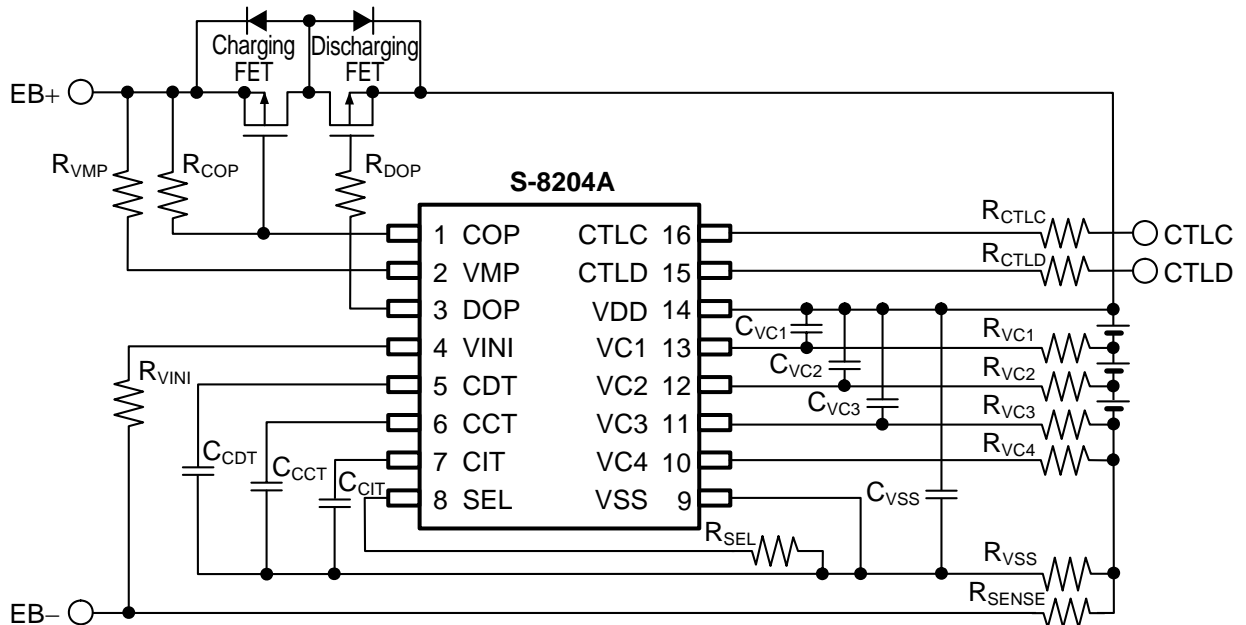

Figure 12
■ Timing Chart (in the circuit in Figure 12, 13)
Table 9 Constants for External Components (in the circuits in Figure 12, 13)